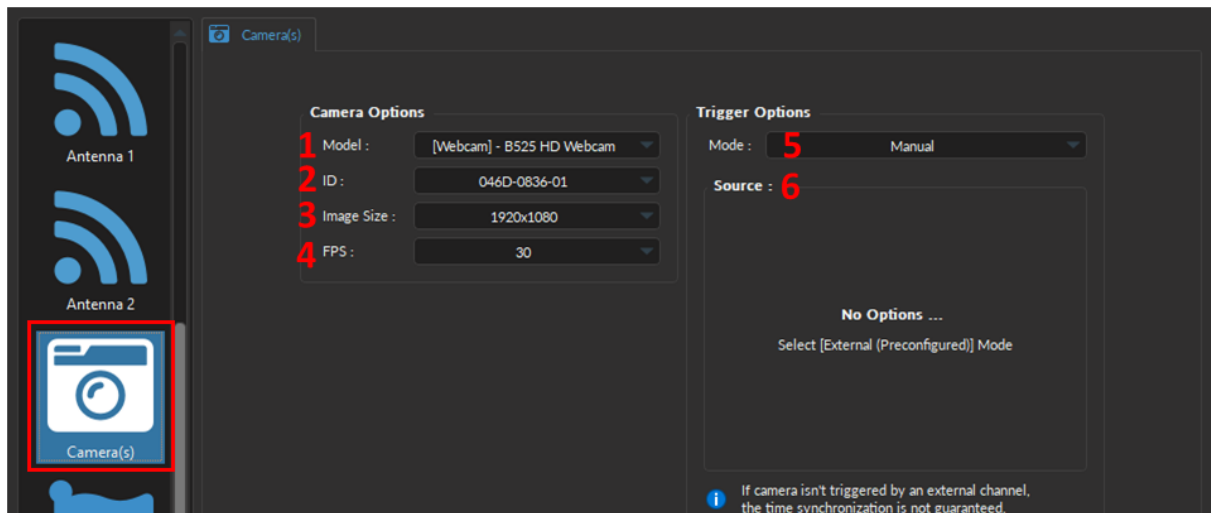

Figure 8.43: Channel(s) configuration window, Camera
1. The **Model** (Fig. 8.43, 1) allows you to select the camera of choice based on the type of camera.
2. **ID** drop-down list (Fig. 8.43, 2) is used to select a camera based on its unique ID. The ID is particularly useful if multiple cameras of the same model are required for the experiment.
3. The **Image Size** (Fig. 8.43, 3) is used to set the resolution of the image. The large the number of pixels used for width x height, the better the resolution. Currently, image size can ranges between 160x120 to 1920x1080 pixels.
4. The **FPS** (Fig. 8.43, 4) is used to specify the frame rate of the camera (i.e. the number of images displayed per second). FPS can be any value between from 5-30 for web cameras and up to 60 FPS for the *Doric Behavior Camera*.
5. The **Mode** (Fig. 8.43, 5) sets the type of trigger that will control the camera. Depending on the type of camera, at most three modes are available:
6. The **Source** (Fig. 8.43, 6 & Fig. 8.45) is only used for the **External (Preconfigured)** mode, and displays the **Digital I/O** channel with the preconfigured parameters that will be created at the same time as the **Camera Channel** (Fig. 8.45). For detailed description of each Digital I/O parameter see the corresponding section in the Fiber Photometry System Manual. Briefly, key parameters include: